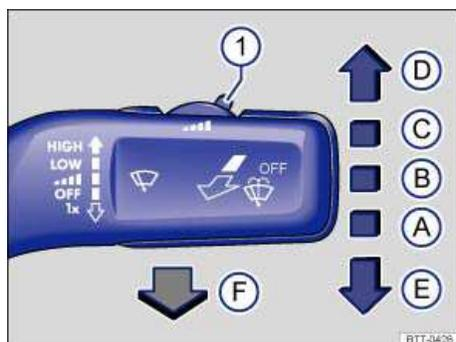

Fig. 92 Operating the front windshield wiper.
- Press the windshield wiper lever down briefly ⇒ fig. 92 \(E\) when the ignition is off.
Carefully fold the wiper arms back onto the windshield before driving! Switch the ignition on and press the windshield wiper lever down briefly ⇒ fig. 92 \(E\). The wiper arms move back to their original position.